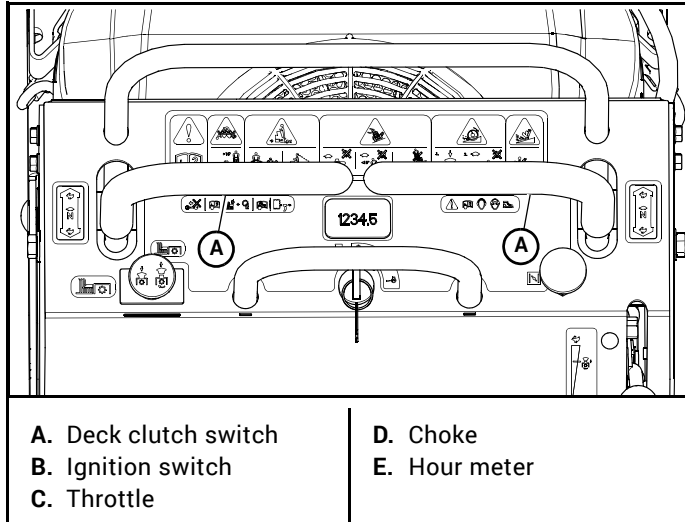

Figure 3-1
- A. **Deck clutch switch (Figure 3-1)** – this switch engages the deck. Pull the switch up to engage and push the switch down to disengage the clutch.
- B. **Ignition switch (Figure 3-1)** – a three position switch: “OFF”, “RUN”, and “START”. With key inserted, rotate it clockwise to the “START” position; release the key when the engine starts, and the switch will automatically return to the “RUN” position.
- C. **Throttle control (Figure 3-1)** – a cable is linked to the engine throttle for controlling engine speed. Move the lever forward to increase engine rpm, move the lever rearward to decrease engine rpm.
- D. **Choke control (Figure 3-1)** – a cable is linked to manually operate the engine choke. When the knob is in the down position, the choke is in the “OFF” (run) position. When the knob is pulled up, the choke is in the “ON” (start) position. **Do not** operate the machine in the “ON” (start) position.
- E. **Electronic hour meter (Figure 3-1)** – registers 1/10 hour increments up to 9,999.9 total hours. It is connected to the ignition switch. It records the accumulative time while the ignition key is switched to the “RUN” position.